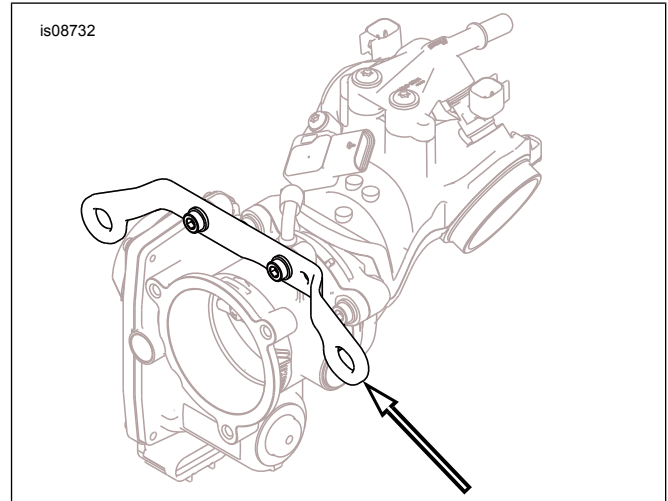

Figure 1. Remove Induction Module Support Bracket
2. See the service manual. Remove the Original Equipment (OE) air cleaner.
4. See Figure 1. Remove and discard the induction module support bracket.